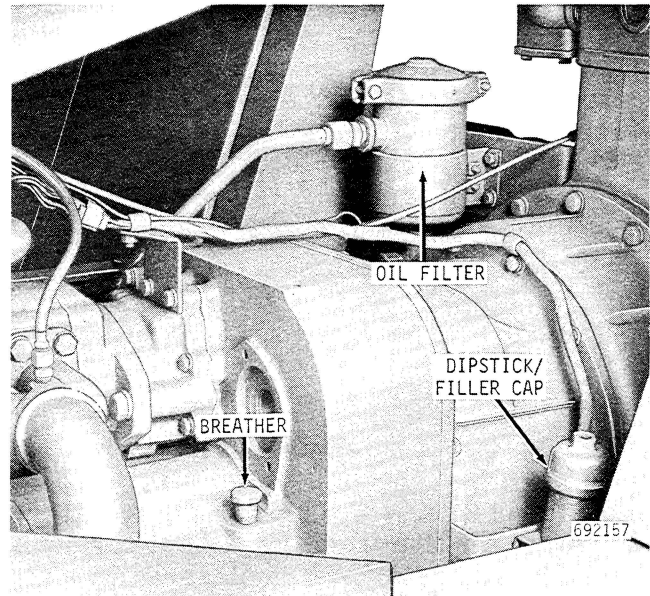

Figure 9
**TRANSMISSION BREATHER - Figure 9.** Remove breather and clean in cleaning solvent. Reinstall breather. If the breather appears to be damaged it must be replaced.
**TRANSMISSION OIL FILTER - Figure 9.** To remove the filter element, loosen the cover retaining clamp bolts and remove clamp, cover with relief valve, gasket and filter